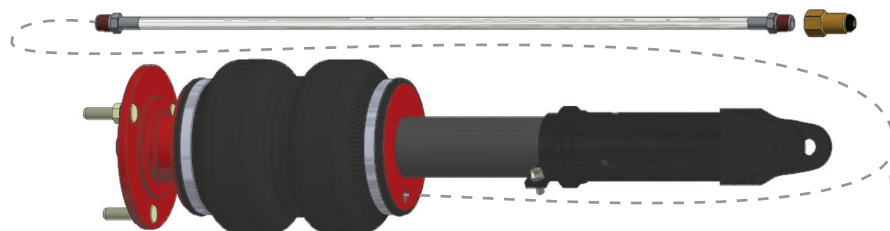

fig. D.6
- Begin by installing the leader line into the air spring. Tighten the appropriate fitting to the leader line 1 3/4 turns beyond hand-tight. Tighten the leader line into the air spring 1 3/4 turns beyond hand-tight (Fig. D.6).